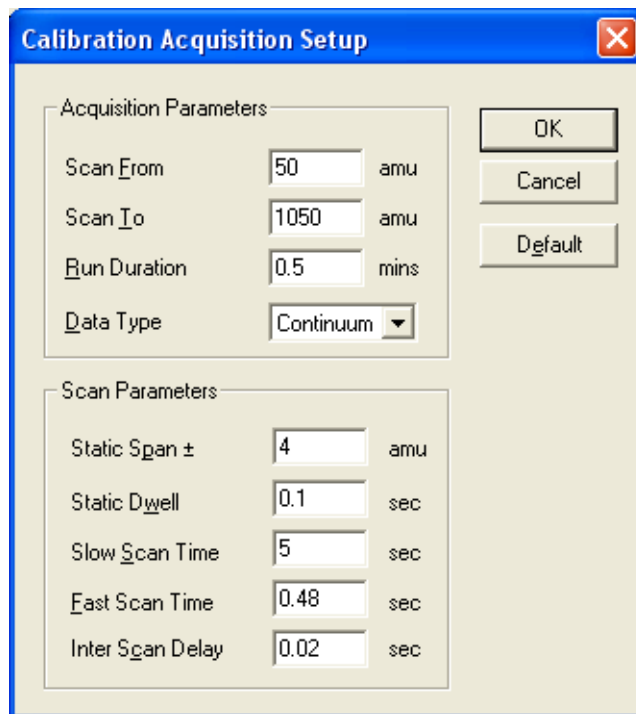

Figure 6-8 Calibration Acquisition Setup Dialog Box
1. Click Acquisition Parameters in the Automatic Calibration dialog box to open the Calibration Acquisition Setup dialog box (Figure 6-8), and set the mass range, scan speeds, and acquisition mode.
The parameters in this dialog box define the limits of scan range and speed for the instrument and calibration parameters. When the instrument is fully calibrated, any mass range or scan speed is allowed within the upper and lower limits dictated by the parameters (50 to 1050 Da and 200 to 2000 Da/s, respectively, in the example shown in Figure 6-8).